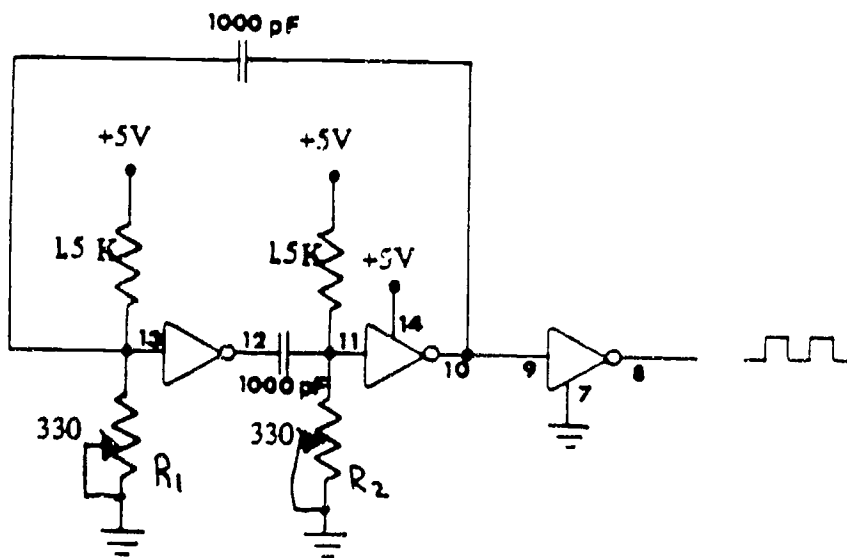

Figure 2
- A) Clock Generator - the clock generator is designed to operate at $1\text{MHz} \pm .2\text{MHz}$. Adjustment of R1 and R2 in Figure 2 may be required to obtain the specified output.
- A) R1 Fig. 2 to 220Ω
- B) R2 Fig. 2 to 370Ω